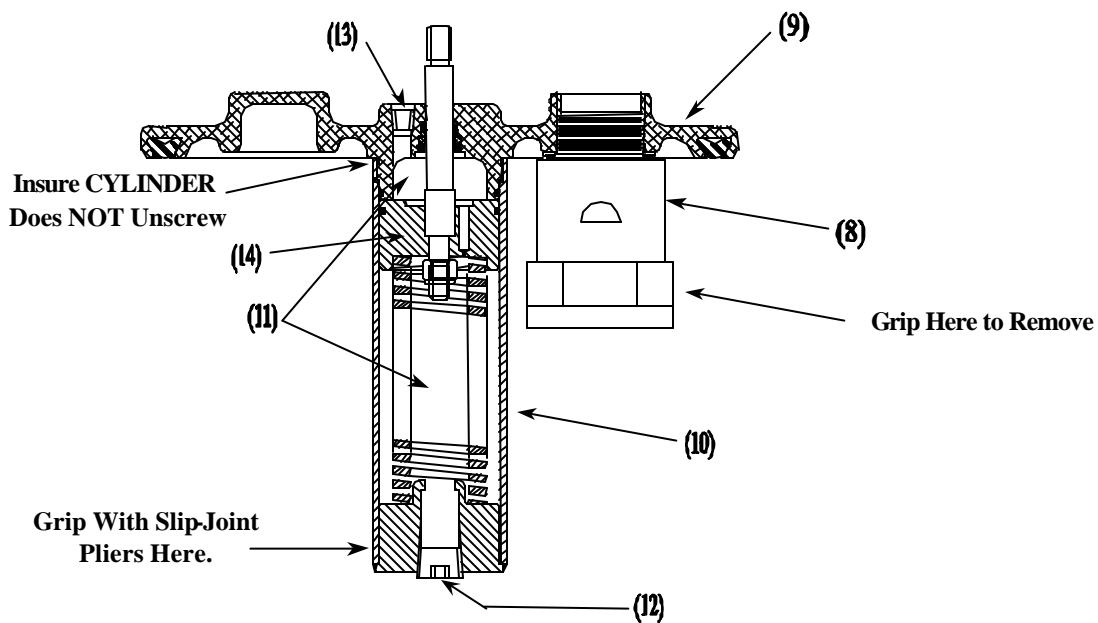

Figure 7
2. Remove *Normal Vent* (8) by gripping with slip joint pliers and unscrewing from *Cover* (9). See figure 7.